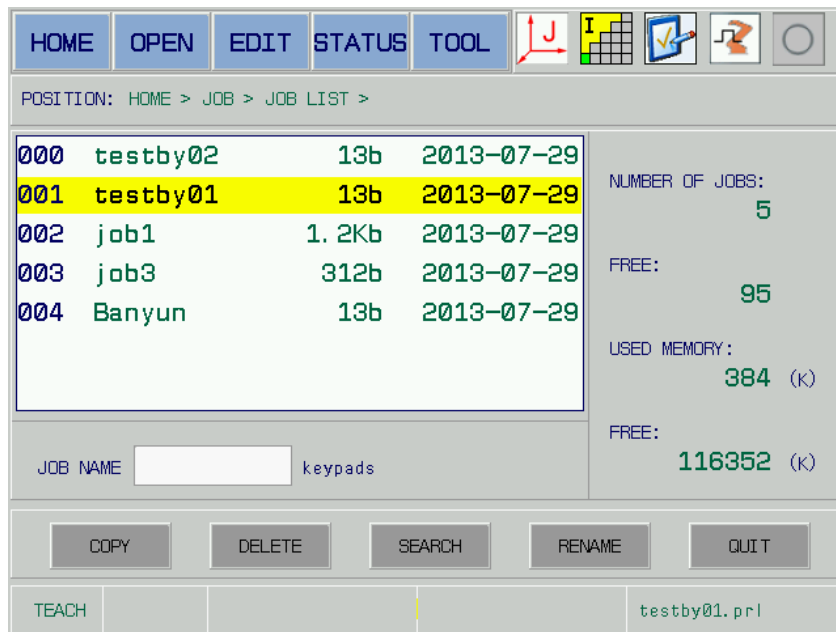

Fig. 5-10
1. Shift cursor to the {JOB} menu by [TAB] and left/right direction button, then open the {Job list} submenu by [SELECT]; refer to Fig. 5-10.